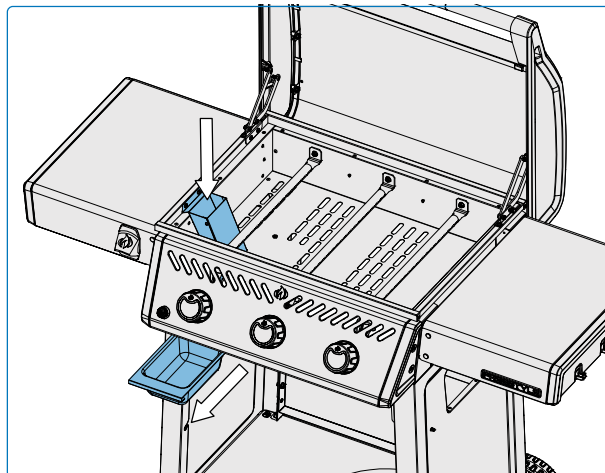

Fig. 11
1. Once the appliance has cooled completely, carefully remove the drip tray straight out from the appliance cart without tilting. **(Fig. 11).**